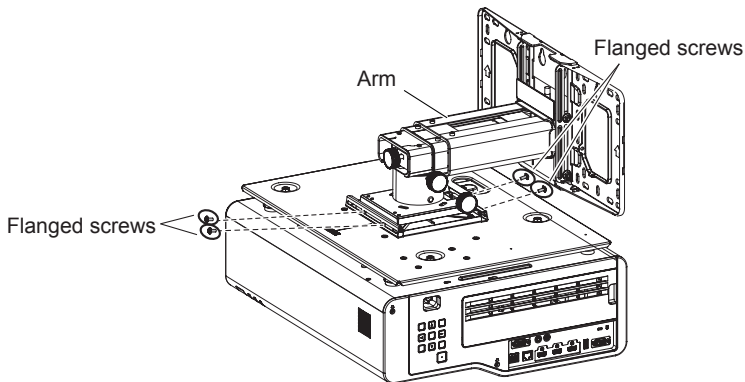

Fig.4
- 4) **Secure the projector mount bracket to the wall mount bracket using the four supplied flanged screws (M4 × 10). (Fig.4)**